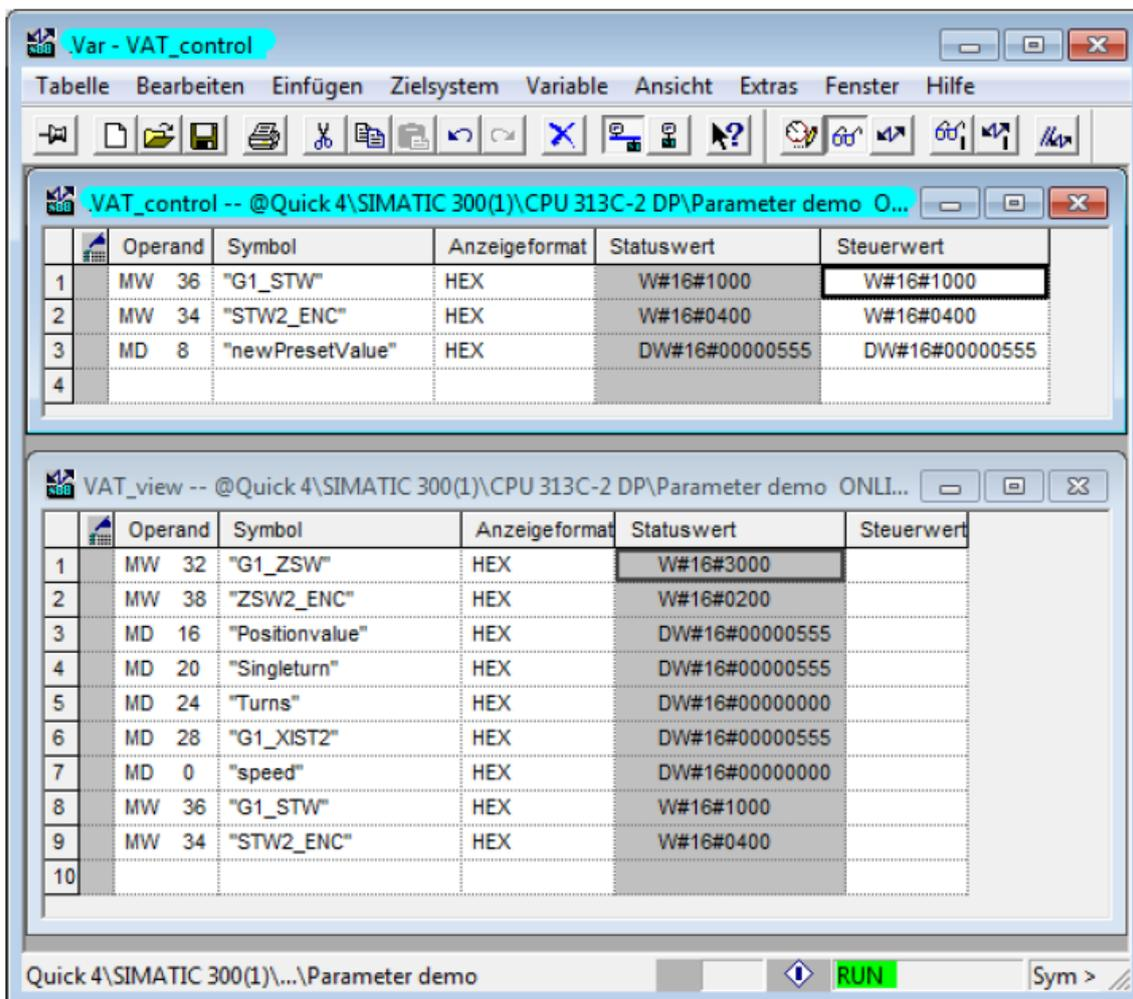

Figure 5.14: Variable table "VAT_Control" - "G1_STW" = 1000
Set the control value of "G1_STW" to the hex value: 1000 (see Figure 5.14).
Step 3 changes the status value in the variable table "VAT_View" (see Figure 5.14) from hex value: 2000 to hex value: 3000.